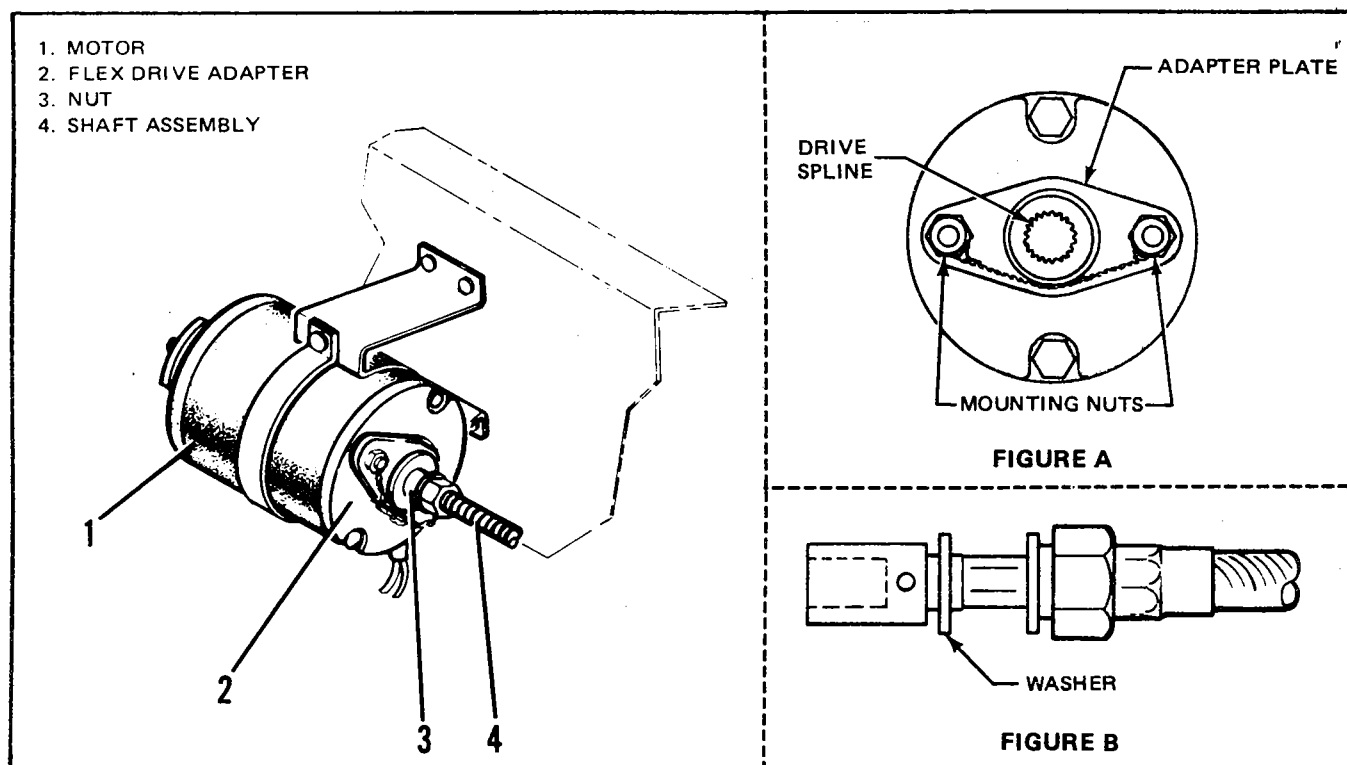

Figure 4. Wing Flap Motor
4. WING FLAP MOTOR NO LOAD RPM CHECK. (Refer to Figure 4.) This check for demagnetization of the flap actuating motor should be accomplished along with friction reduction per Instructions, No. 3, above if flap motor circuit breaker popping has been or remains a problem.
- a. With the wing flap motor (1) installed in the aircraft, disconnect both of the flexible drive shafts (4) and remove one of the flex drive adapters (2) from the motor.
5. WING FLAP MOTOR/FLEX SHAFT ENGAGEMENT CHECK, (Refer to Figure 4.)
- a. With both flexible drive cables disconnected at the motor, examine the splined coupling for wear and security. Examine the base of the swaged portion for wear under the washer (See Fig. 4-B). Wear in excess of .005 inch deep on the swaged terminal is cause for replacement of the cable assembly.
- b. If signs of wear are discovered (caused by the washer), recenter the adapter plate over the motor drive spline (See Fig. 4-A). Remove motor, loosen the adapter plate attachment nuts, recenter the plate over the spline and re-attach and secure the plate (in some cases, it may be necessary to rotate the plate 180° for better alignment).